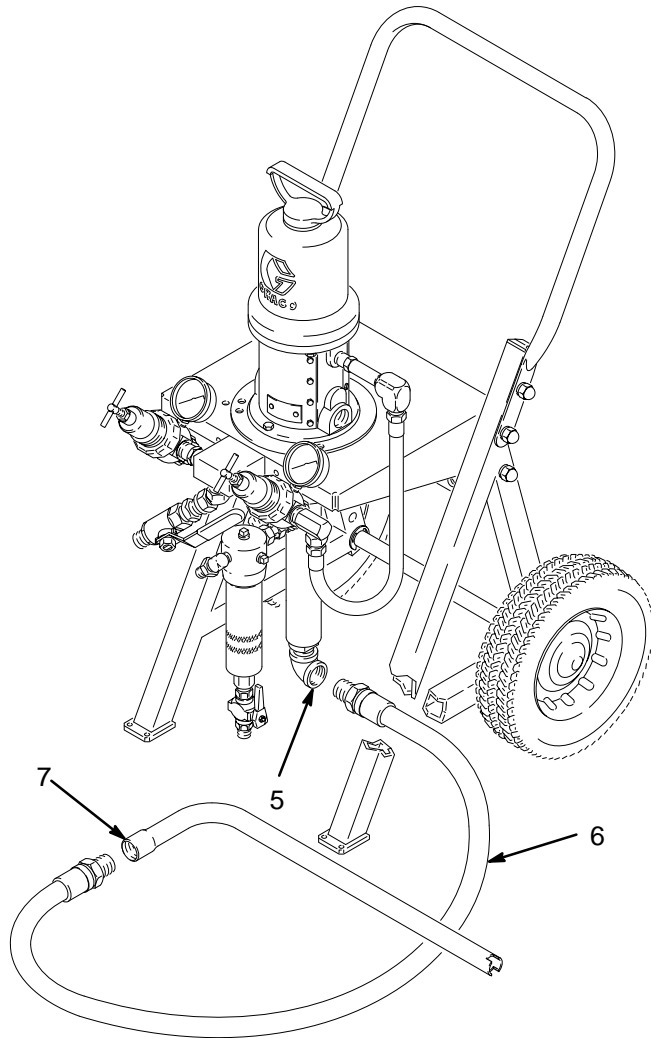

Fig. 1 03356
Assemble the suction hose (6) to the elbow (5) at the pump intake. Screw the suction tube (7) onto the other end of the hose. See Fig. 1.